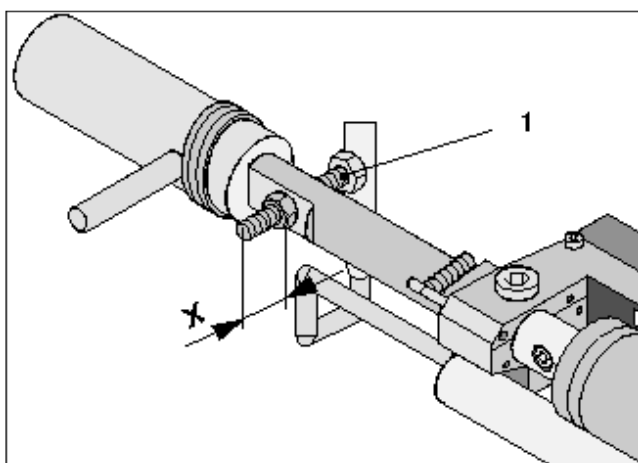

Fig. 22 Blanket washup device D.S.
6. Set the contact areas to 4 ± 1 mm using the outer hexagon-head screws on D.S. and O.S. (Fig. 22 /1, 23 /1).
In PU 4, the outer hexagon-head screws (Fig. 22 /1, 23 /1) must be preset to a dimension x :